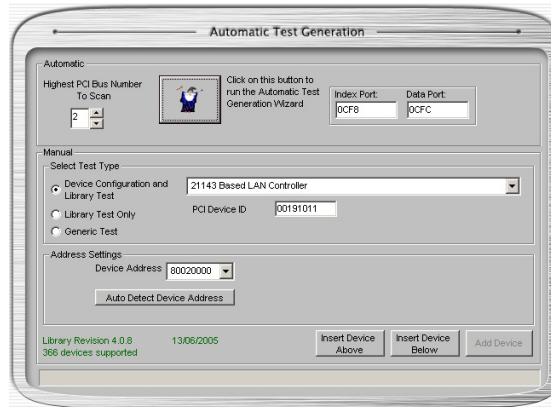

Fig. 3 – PCT’s Automatic Test Generation window.
3. In the Automatic Test Generation window (fig. 3), select the highest PCI Bus number that the ATG should scan for devices. If you don't know how many buses are implemented on the board, this
- b. In the “Manual” section of the ATG window (fig. 3), select the option “Device Configuration and Library Test”.